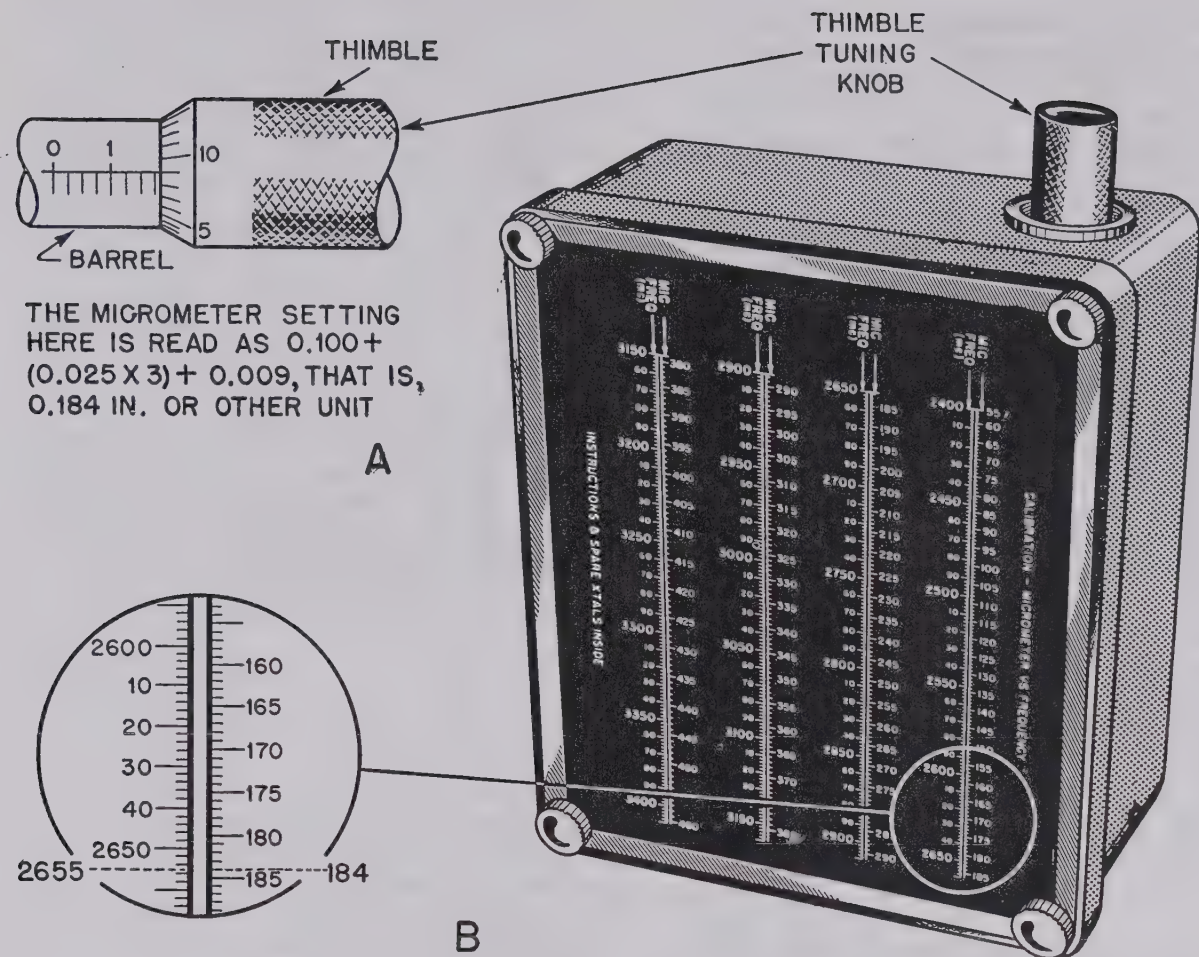

Figure 6. How to read a micrometer.
- (4) Many wavemeters use a micrometer-type tuning dial. The micrometer consists of a thimble with a vernier scale which is rotated about a barrel with a coarse scale. A typical micrometer dial (A of fig. 6) is read in the following manner: The barrel has major divisions marked on it which represent tenths of an inch or any desired unit that may be represented by tenths of an inch. Each of the four minor divisions between the major divisions represents .025 inch. The thimble is divided into 25 parts around its circumference, and one full rotation moves the thimble one minor division on the barrel or .025 inch. Since the thimble is divided into 25 parts, one division is equal to $.025/25$ or .001 inch. Consequently, the reading of the micrometer setting in A of figure 91 is $.1$ plus $(.025 \text{ times } 3)$ plus $.009 = .184$ inch. The frequency which represents a reading of .184 inch then is obtained from a calibration chart, shown in B, and is found to be 2,655 mc. The calibration chart, which represents a frequency range from 2,400 to 3,400 mc for micrometer readings from .0557 to .46, is on a metal plate screwed to the back of the wavemeter case.